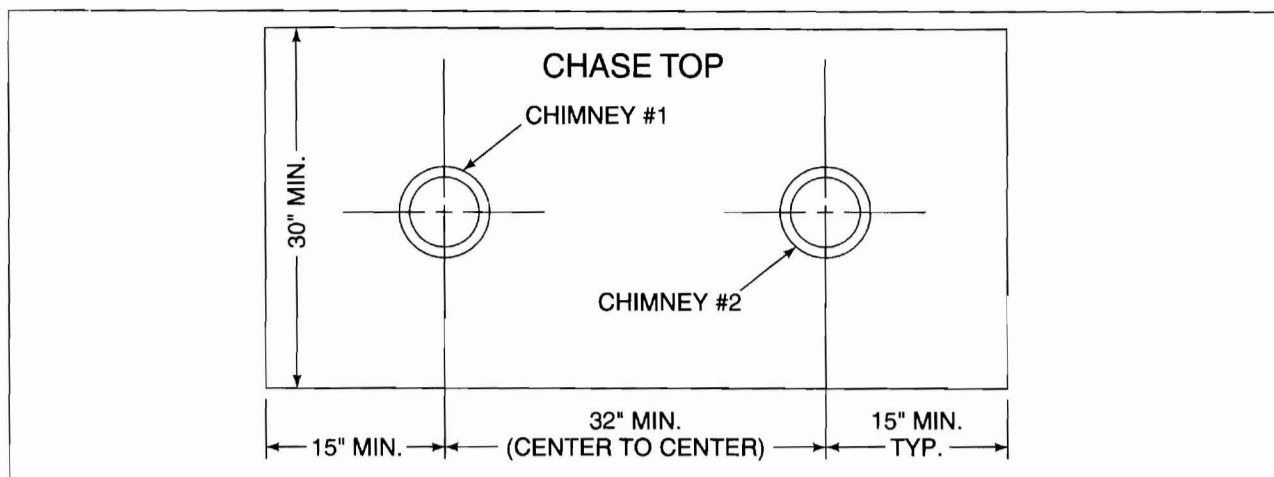

Figure 4
2. The Chase Top outside dimensions must be large enough to ensure that the dimensional requirements shown in Figure 4 can be maintained. (The 2" clearance from the chimney to any combustible material must always be maintained.)
4. Locate the individual Shrouds over the termination caps and install to the Chase Top per the instructions in the previous section. Other arrangements of multiples are possible as long as the dimensions shown in Figure 4 (on following page) are observed to allow the mounting of individual Shrouds.